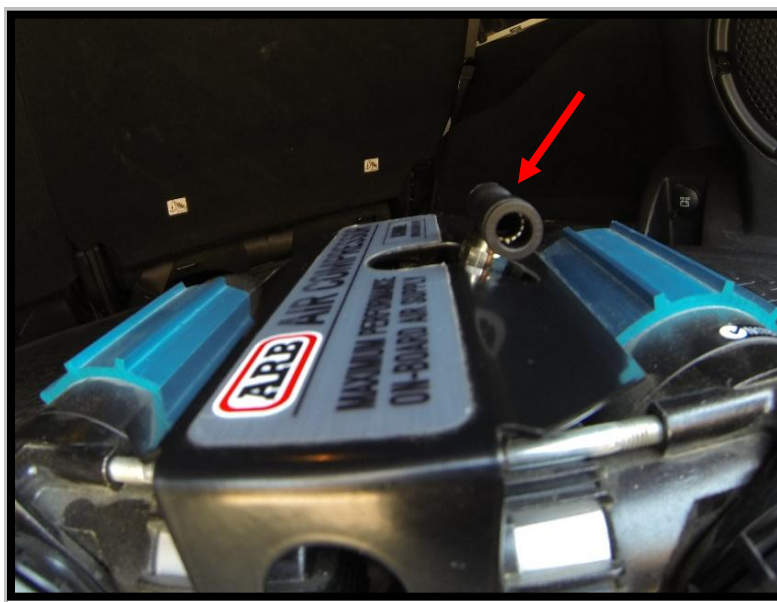

Figure 1
- 1-E) Insert an open end 10mm wrench into the slot on the top of the compressor and loosen the bolt on the end of the manifold (just enough to allow the end cap to rotate). Rotate the tee fitting to the top and remove it. Replace it with the provided 90° elbow fitting. Tighten the fitting to ensure a good seal. Rotate the fitting as far over as possible (**Figure 1**), then retighten the bolt on the manifold. **This step is really important since seat clearance is very tight. Get the fitting over as far as possible!**